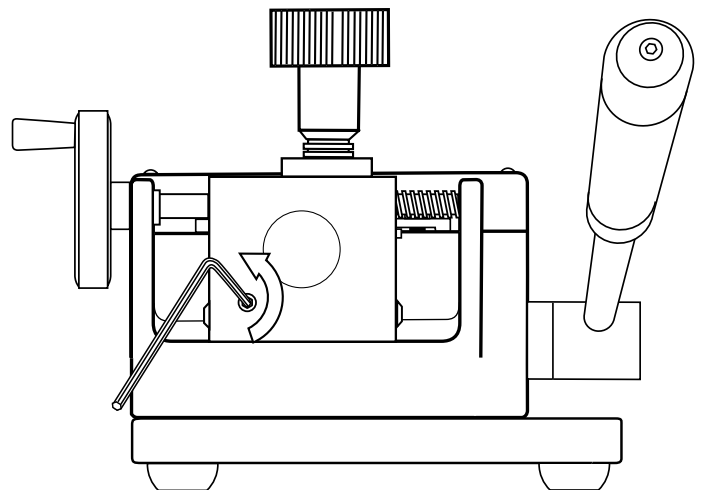

Fig. 3.15
3. Loosen the set screw on the carriage to free-up the carriage (Fig. 3.15).